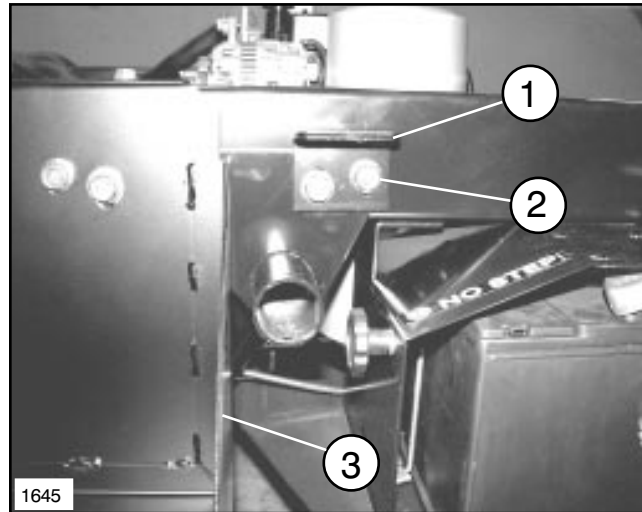

FIG. 5
3. Remove the four existing (two each side) 1/2"-16 x 1- 1/4" Lg. Flange Lock Hex. Hd. Cap Screws in the Workman[®] unit. See FIG. 5. Install two (99-2667) Attachment Mount Brackets by using the same four 1/2" Flange Lock Hex. Hd. Cap Screws and 1/2" Flange Lock Nuts that were removed. Finger tighten screws and nuts.